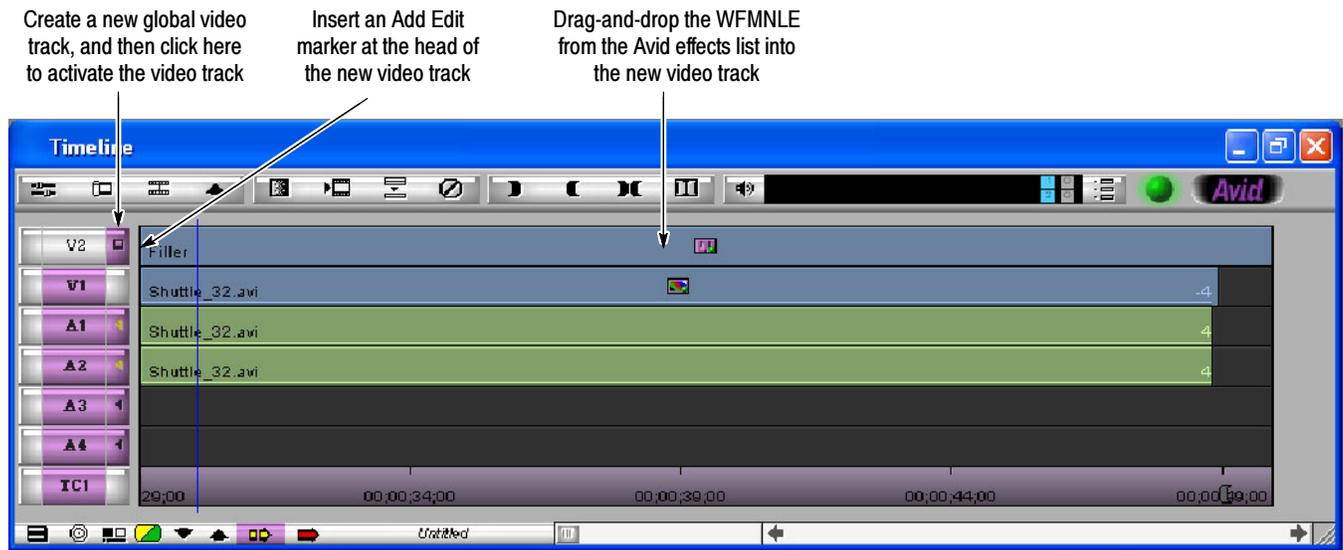

Figure 2: Monitoring the entire video clip in the Avid Timeline window
5. Activate the new video track by clicking on the right side of the associated Record Track button. Figure 2 shows an example using an Avid Xpress Pro system.
- a. Insert an Add Edit marker at the head of the timeline for the new video track (see Figure 2).